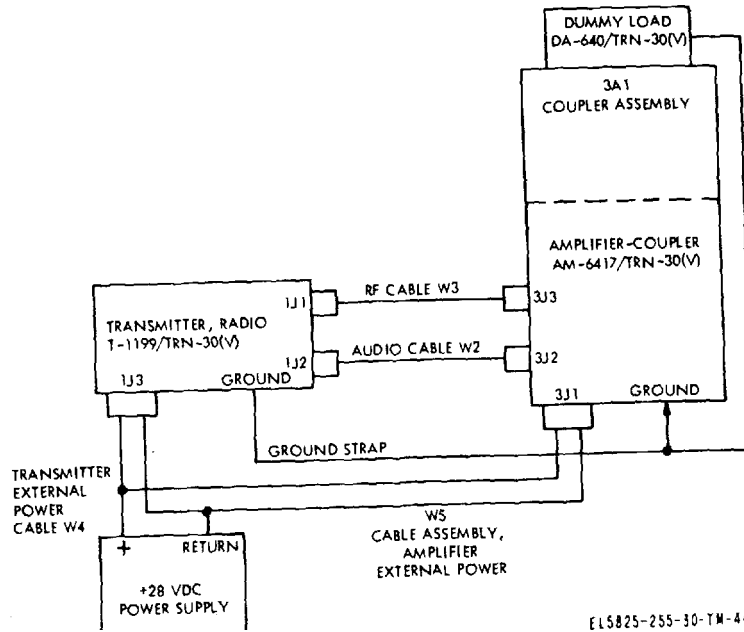

Figure 3-10.
Connect the equipment for bench testing as shown in figure 3-10 and perform the following steps:
g. Connect rf and audio cables as shown in figure 3-10.
a. Turn power supply, transmitter PWR switch, and amplifier PWR switch to OFF. Verify that transmitter and amplifier are connected as shown in figure 3-10. If equipment is not properly connected, perform paragraph 3-11.